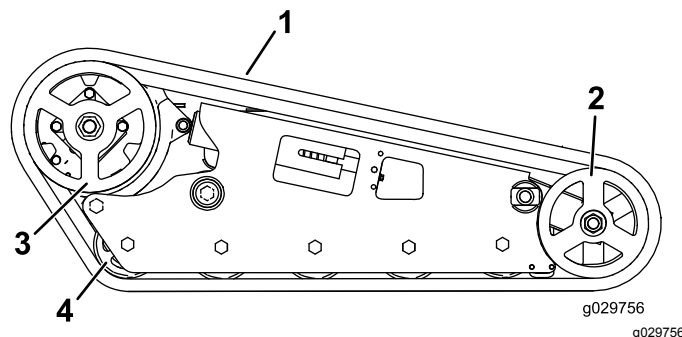

Figure 56
**Important:** Ensure that you fully clean the road wheels, the front wheel, and the drive sprocket (Figure 56). The road wheels should rotate freely when clean.